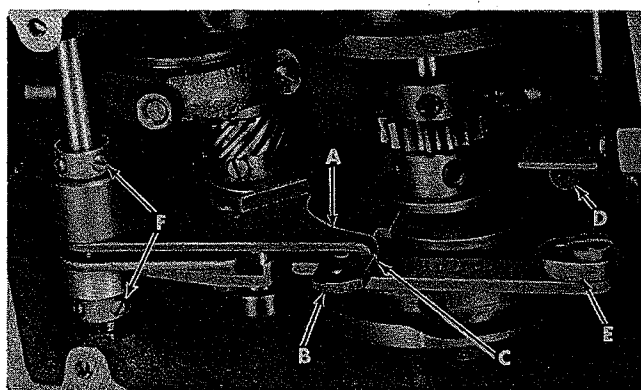

Fig. 22
Machine is in STOP POSITION. On completion of the stitching cycle, the button clamp is lifted by the cam driven lift lever (A, Fig. 22) and link (B). The link moves in to engage the lever as the stop motion plunger drops into stop position. Improper adjustments may cause the machine to repeat the stitching cycle or effect the clamp lifting.
Manually operate the machine and observe lever (A, Fig. 22) and link (B) while approaching the STOP POSITION. The lip of lever (A) must pass the leading edge of the notch point (C) in link (B) with minimum clearance and seat evenly in the notch without interference. Adjust link (B) by loosening screw (D) and move lever (E) on the shaft. To position lever (A) loosen the set screws in collars (F).